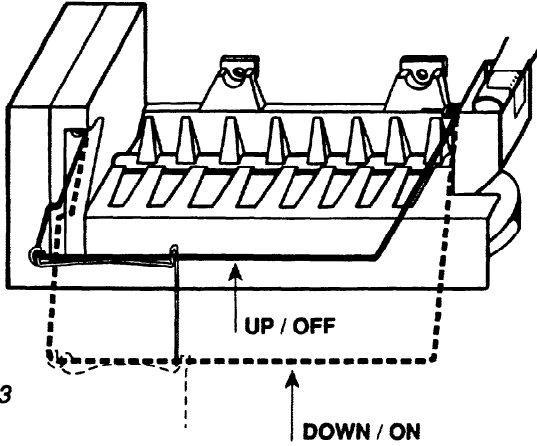

Figure 83
b. To remove ice storage bin, raise ice maker shut-off arm to OFF position (audible “click” is heard). See Figure 83.
- d. To stop ice production, raise ice maker shut-off arm to OFF position (audible “click” is heard). See Figure 83. Remaining cubes will be dispensed from ice bin until all are used or until bin is emptied.
- e. When leaving for extended periods, raise ice maker shut-off arm to OFF position (audible “click” is heard). See Figure 83. Empty ice storage bin to prevent cubes from freezing around ice auger.